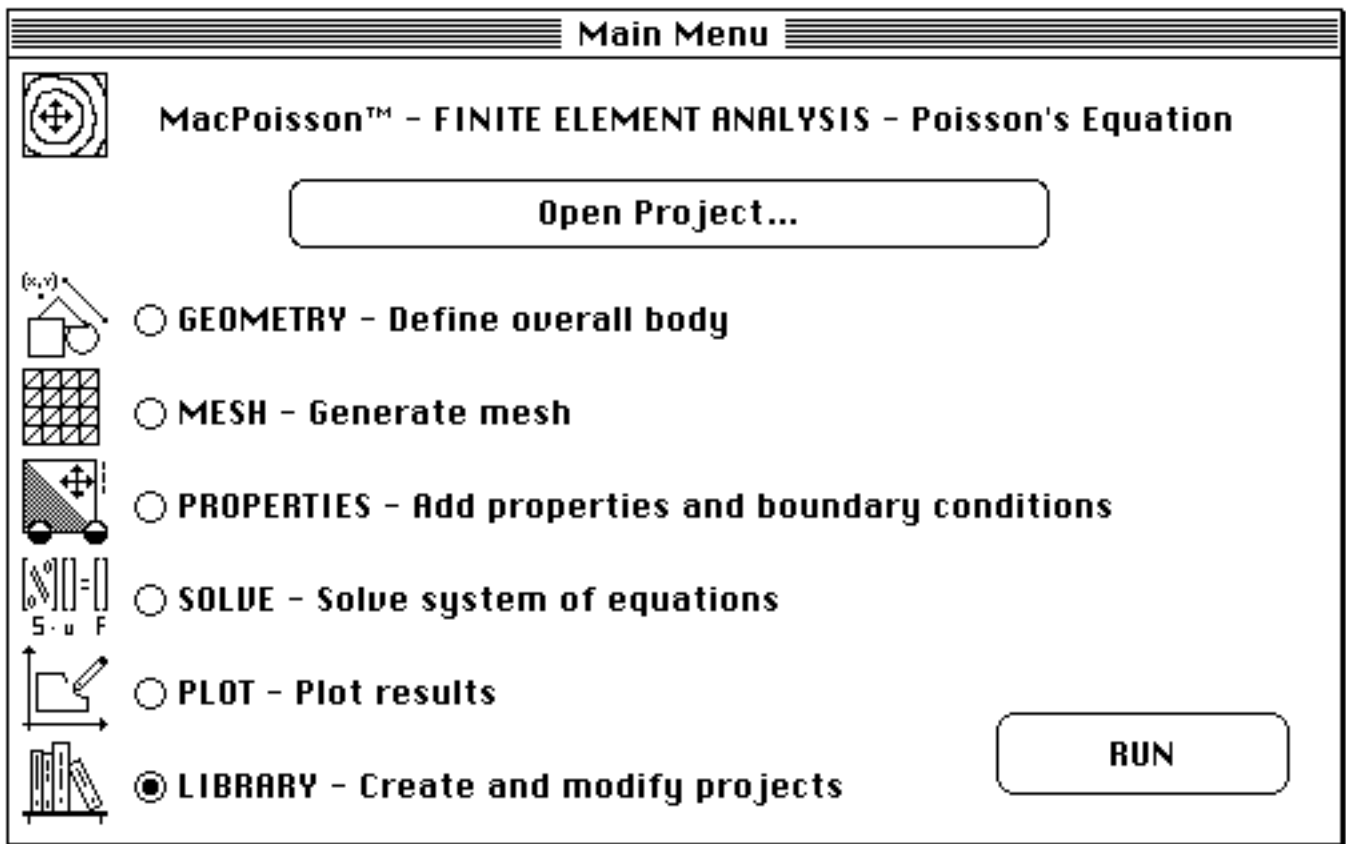

Fig 2.10 The main menu
- Click on the long Open Project button on the Main menu (or on the File menu) (Fig 2.10).
The Open Project button on the Main Menu (Fig 2.10) changes to Close Project.
- Double click the Geometry button (Fig 2.10) or anywhere within that label (or select Geometry and click the Run button), and the next dialog box appears.
You can enter the mesh module from the main menu (Fig 2.10) or as a continuation from the geometry module above.